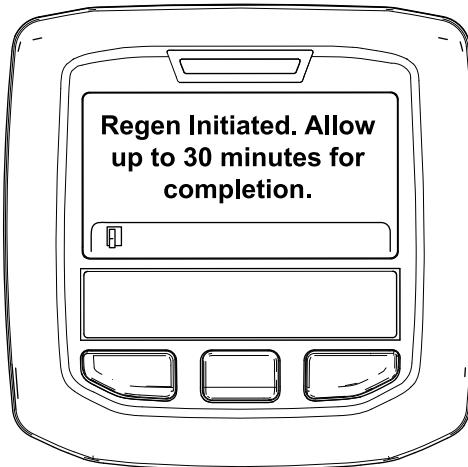

Figure 39
- If the regeneration is allowed, the “Regen Initiated. Allow up to 30 minutes for completion” message displays in the InfoCenter, wait for the machine to complete the parked regeneration process (Figure 39).